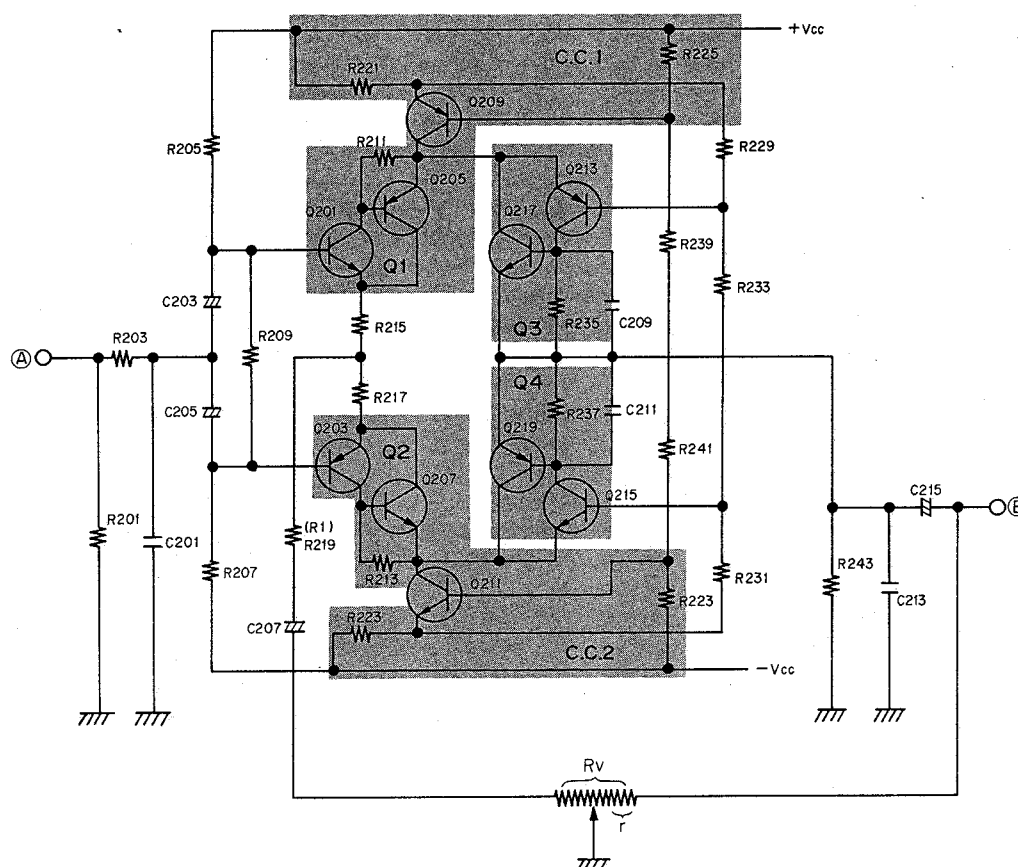

Fig. 9
As shown in Fig. 9, the Gm volume control circuit has a circuit configuration in which the I/O terminals ① and ② for the bridged transistors (Q1 - 4) and constant current circuits (C.C.1 - 2) are placed opposite each other. The input signal to terminal ①, for which the voltages almost equal to its signal voltage appear at the emitters of Q1 and Q2, is output in the form of current from the